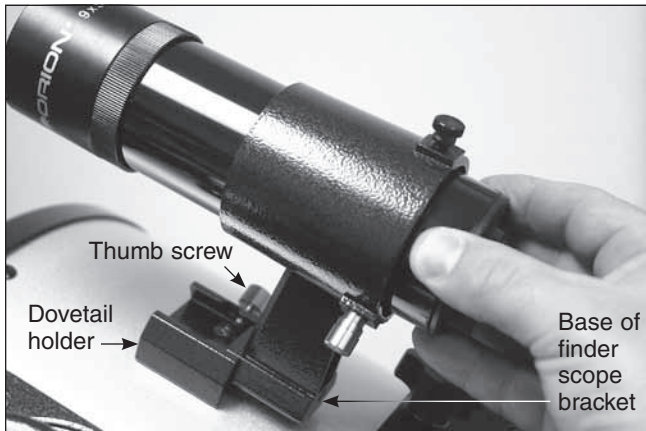

Figure 28. The base of the finder scope bracket goes into the dovetail holder and is secured with the holder's thumb screw.
2. Insert the base of the finder scope bracket into the dovetail holder located adjacent to the telescope's focuser (Figure 28). Lock the bracket into place by tightening the thumb screw on the dovetail holder.